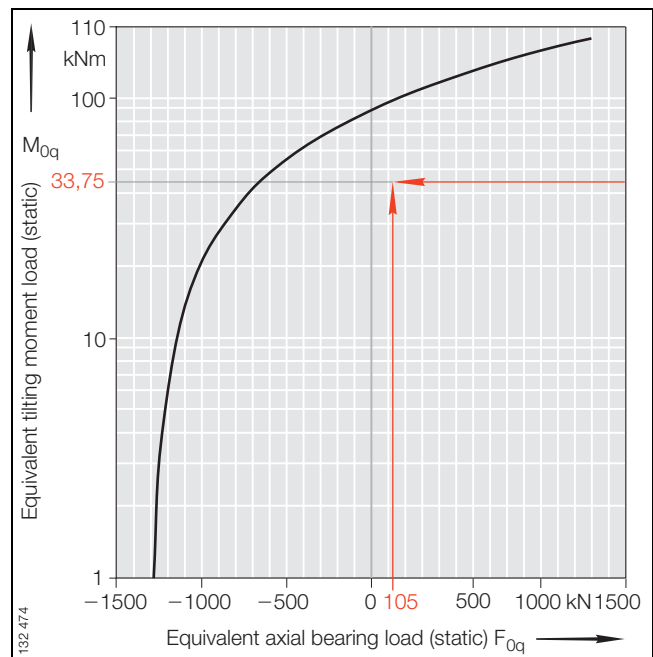

Figure 1 · Static limiting load diagram *Fixing screws* – example for crossed roller bearing SX 01 1860
- the curves in the limiting load diagrams *Fixing screws* (example: see Figure 1)
The load point must be below the appropriate screw curve (see example, Figure 1)!